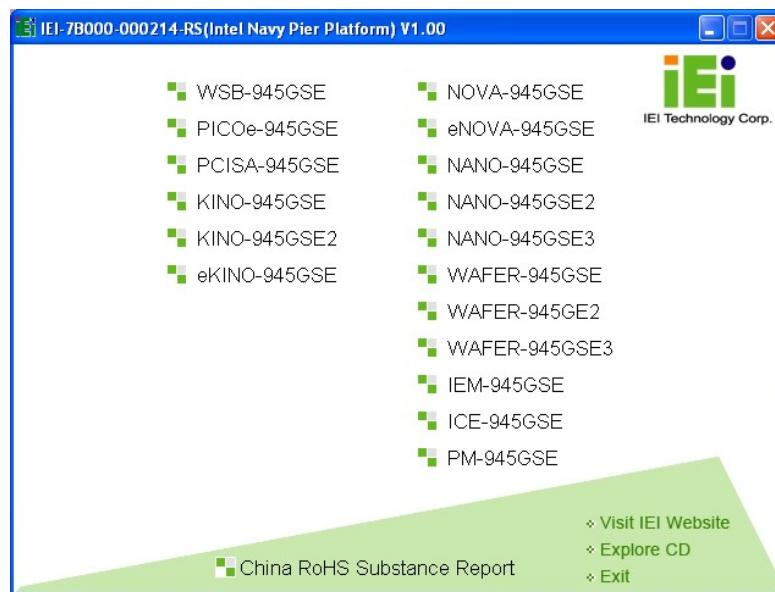

Figure 6-1: Start Up Screen
Step 2: The screen in **Figure 6-1** appears.